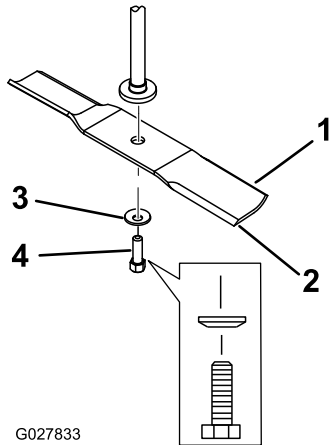

Figure 51
2. Remove the blade bolt, curved washer, and blade from the spindle shaft (Figure 51).
1. Install the blade onto the spindle shaft (Figure 51).
2. Install the curved washer (cupped side toward the blade) and the blade bolt (Figure 51).